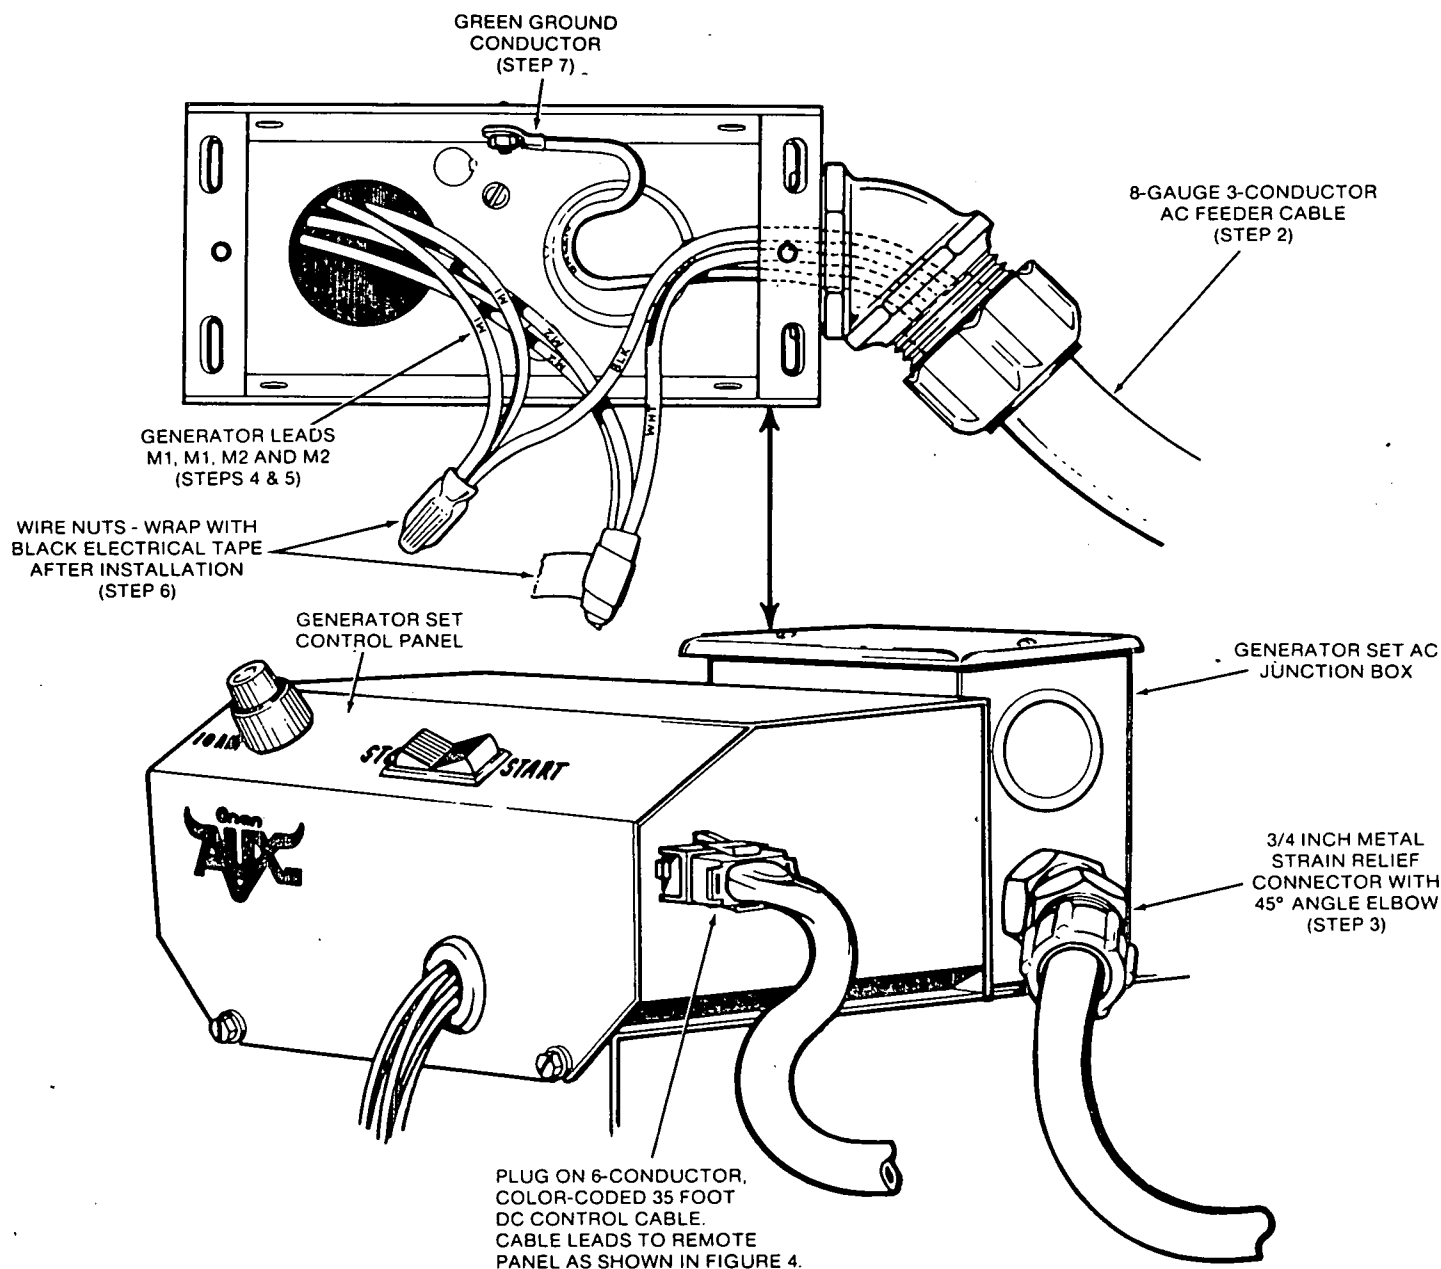

FIGURE 1. CONNECTING FEEDER CONDUCTORS TO GENERATOR AC OUTPUT LEADS
6. Wrap both connections (steps 4 and 5) with electrical tape after installation as further protection against short circuits or loosening due to vibration. See Figure 1.
7. Connect the green (ground) conductor with uninsulated ring terminal (installed in step 2) to the generator set AC junction box on top of the set as shown in Figure 1. Use an existing hole in junction box. Figure 1 is for reference only.
The generator AC output wires (four wires) terminate within the AC junction box on top of the generator set behind the control panel as shown in Figure 1.
The generator AC output load wires (labeled M1, M1, M2 and M2) must be connected to the individual color coded conductors (wires) of the 8 gauge, 3-conductor (type S0) main supply cable (from kit) as indicated in Figure 1. Proceed as follows:
3. Install the 3/4 inch water-tight metal strain relief connector and supply cable into the lower knock-out of the generator set AC junction box as shown in Figure 1. Secure strain relief connector with a 3/4 inch retainer nut on the inside wall of the junction box.